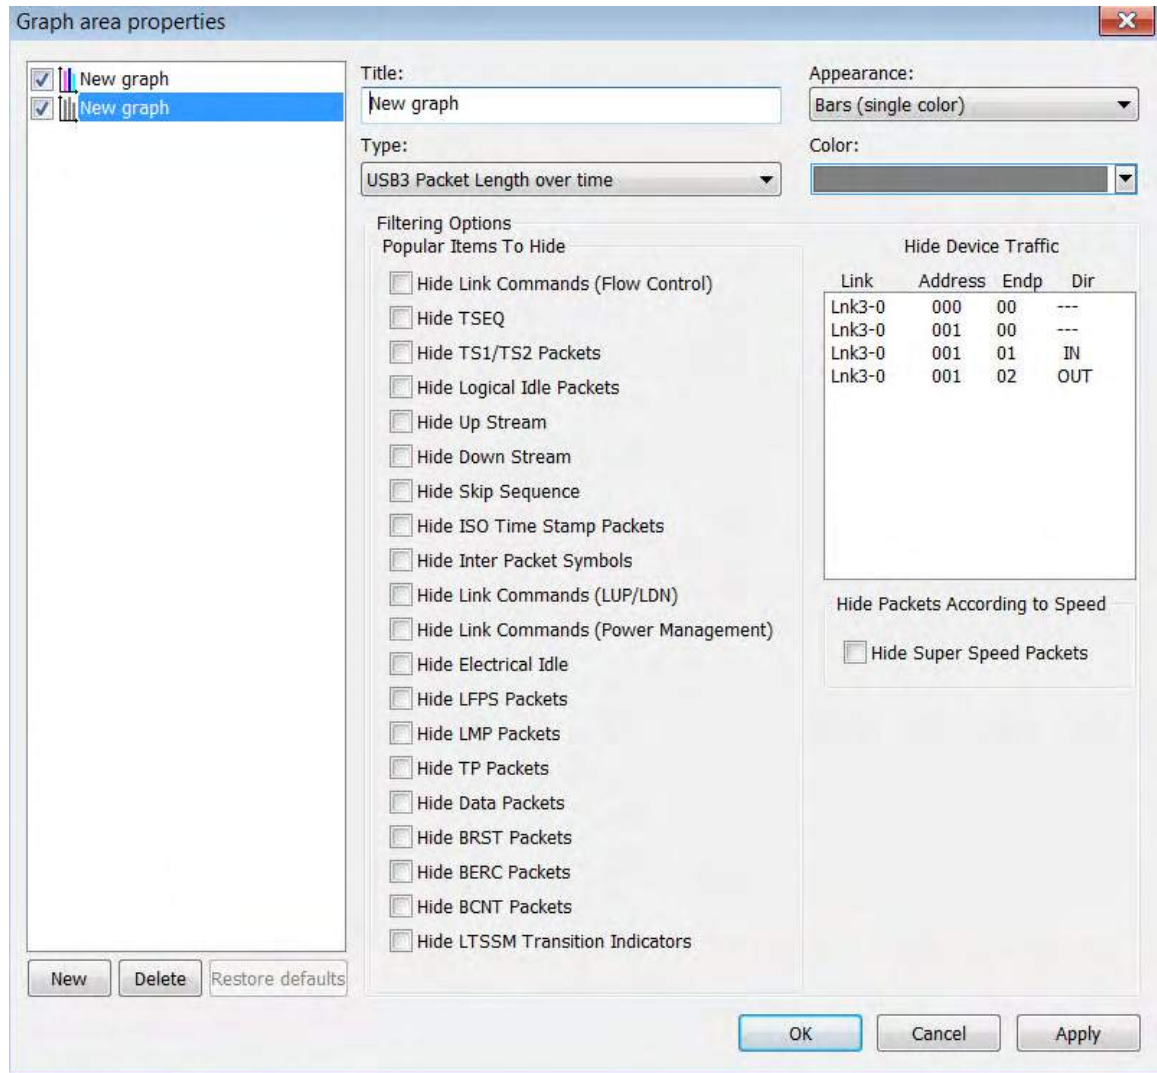

Figure 10.27: Graph Area Properties Dialog
1. In the Graph Area properties dialog box (see Figure 10.27 on page 440), select the options to display in the graph display, then click **OK**.
2. In the Graph Area properties dialog box (see Figure 10.27 on page 440), select the options to display in the graph.